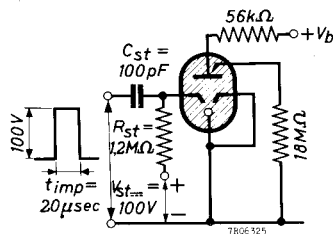
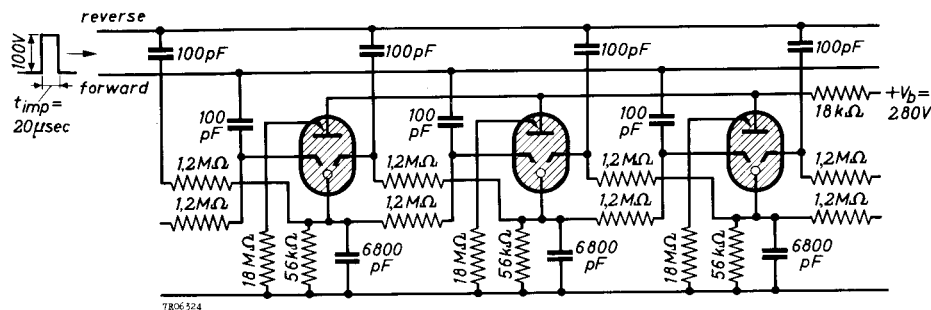

Fig.15a. Recommended circuit with pulse ignition.
Fig.15b. Recommended circuit for forward and backward counting.
The same operational notes and precautions apply to both types. The circuit of Fig.15a is given for ignition with starter pulses of 100 V or higher; for forward and backward counting the circuit of Fig.15b may be used.
2) See Fig.15a.
3) See Fig.15b.
Fig. 16 f. Starter pulse for ignition, as a function of the pulse time, with the anode supply voltage as parameter (see Fig. 15a).
Fig. 16 g. Starter pulse height for ignition, as a function of the starter capacitor with the duration of the pulse as parameter (see Fig. 15a).